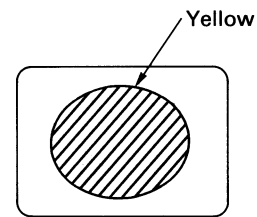

Fig. 8 Screen
- 2) With the deflection yoke positioned fully forward, adjust purity magnet so that the yellow ball is at the center of the screen. (Fig. 8)
- 2) Loosen the deflection yoke screw and move it forwards and check that the yellow ball is at the screen center. (Fig. 8)